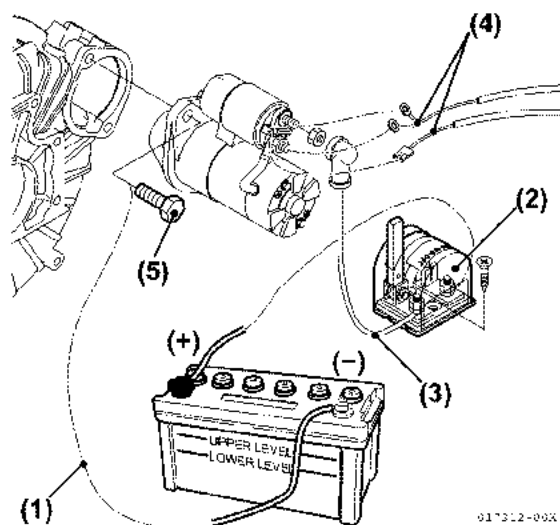

Figure 10-3
1. Disconnect the negative (-) battery cable (**Figure 10-3, (1)**) and turn the battery master switch to OFF (if equipped) (**Figure 10-3, (2)**).
2. Disconnect positive (+) cable (**Figure 10-3, (3)**) and primary wires (**Figure 10-3, (4)**).
3. Remove bolts (**Figure 10-3, (5)**) securing the starter motor to the flywheel housing.